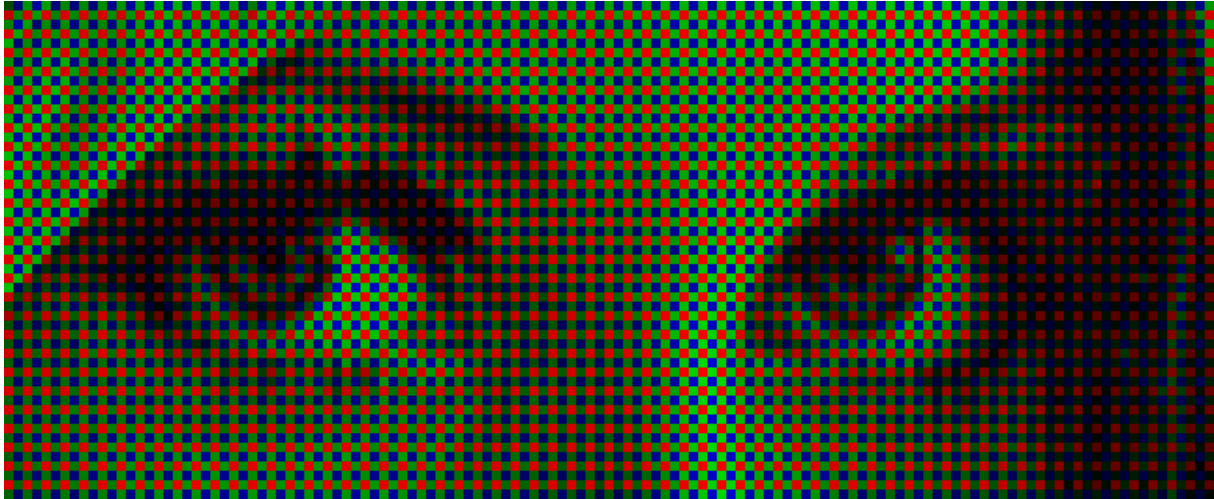
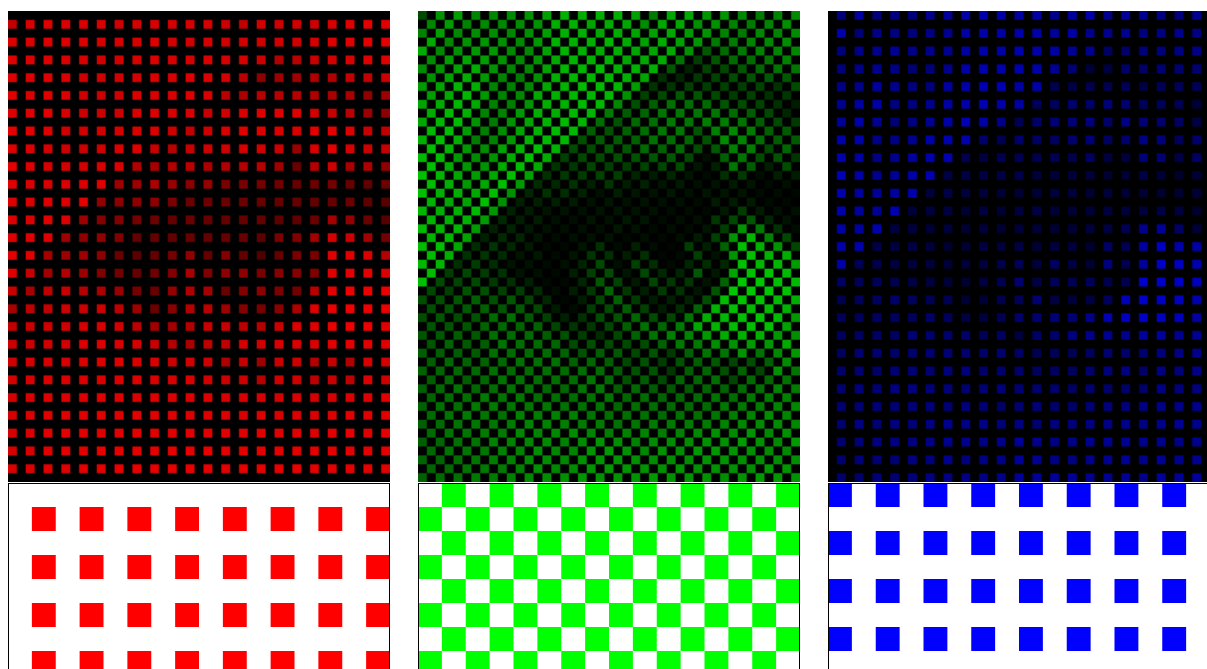

Figure 1: Raw data from Bayer CFA visualized without interpolation
Figure 2: Separated colors with the corresponding CFA
5. Pick the pixel values to the R, G and B layer matrices from the read data. The original data in `rawImage` are grayscale values, some representing red, some green and some blue pixels, organized in the order visualized in Figures 1 and 4. Final R, G and B matrices should contain a grid of known intensity values picked from `rawImage` and missing values in between containing zeros (Figure 2, note that R, G and B are shown here in color but they are actually grayscale). *Tip: initiate R, G and B as matrices of zeros with correct dimensions (same as rawImage), then go through the entire raw image and pick the red pixels from rawImage to R, green pixels to G and blue pixels to B using either for-loops or clever indexing.*
To measure the three main colors, separated color filter arrays (CFA) are used with the sensor. On top of each cell (pixel), there will be a single color filter allowing either red, green or blue light to pass to the sensor. The most common CFA is the Bayer filter, where red, green and blue filters are in group of four cells with two green and single red and blue cells (see raw data at Figures 1 and 2). The green color is measured with two cells instead of one, as the human eye is more sensitive to the green color. The amount of cells in the sensor defines the amount of pixels in the output image. Thus in the raw data there is only one color value for each pixel. For example, in a 16 Mpix camera sensor the number of pixels can be  $4928 \times 3264$ .